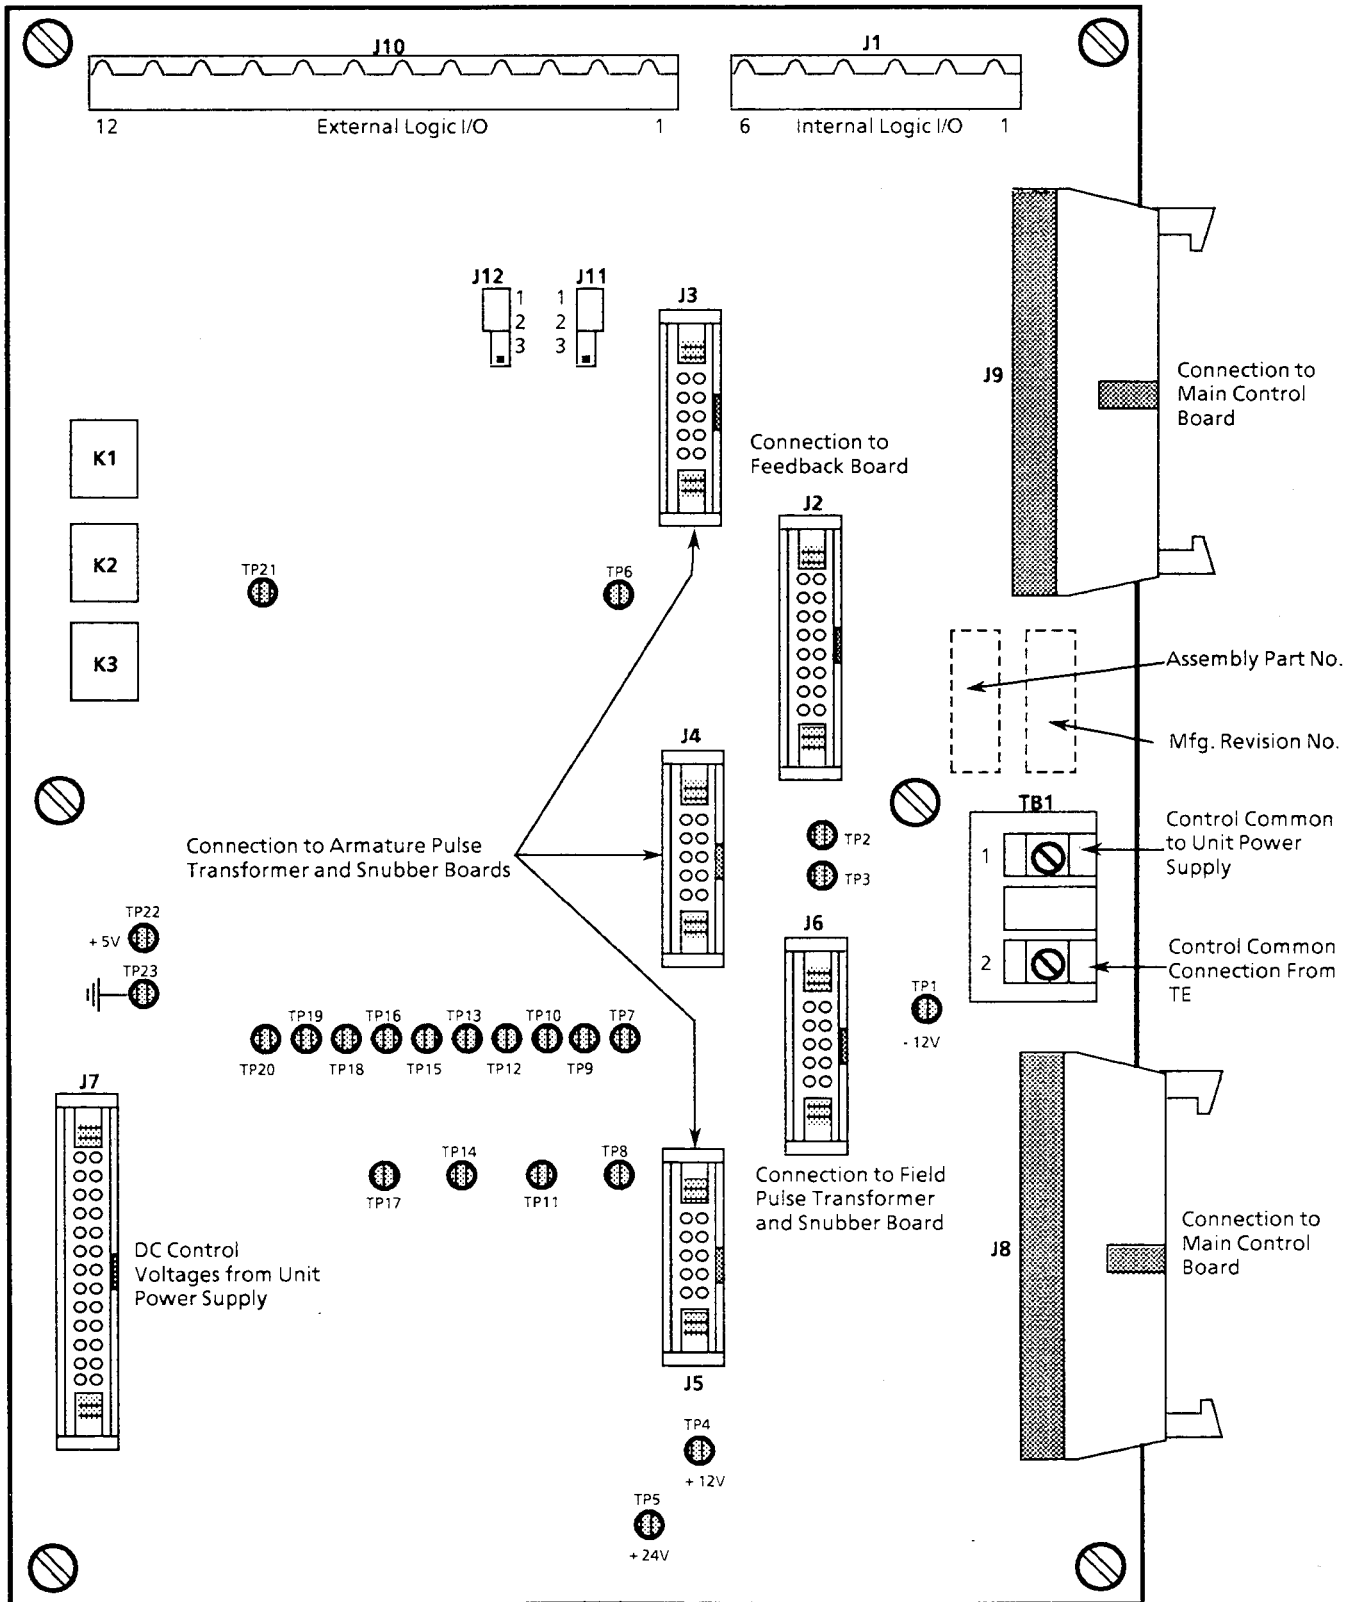

Figure 1. Power Stage Interface (A7) Overview
4. Disconnect the 10 ribbon and wire connectors (J1 thru J10) located on the board (refer to Figure 1).